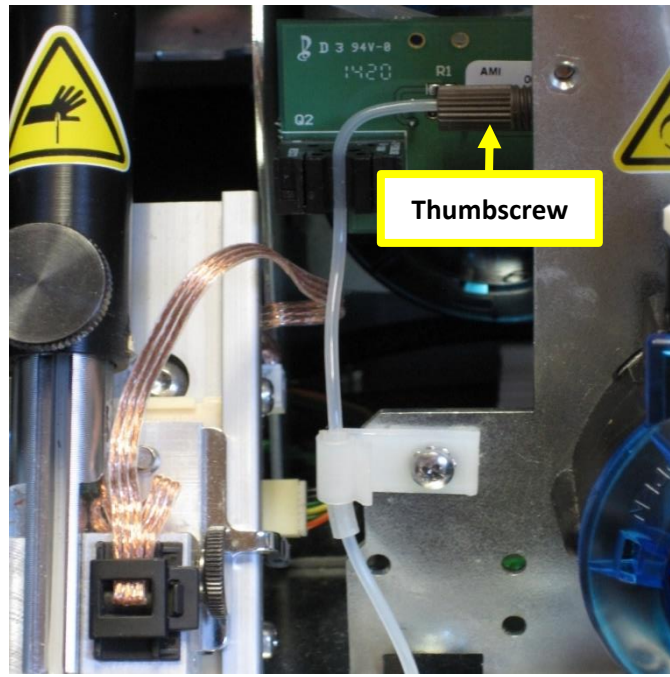

Figure 7
1. Remove tubing from the left side of the reading cell and tail sensor by turning the brown thumbscrew counterclockwise. Figure 7